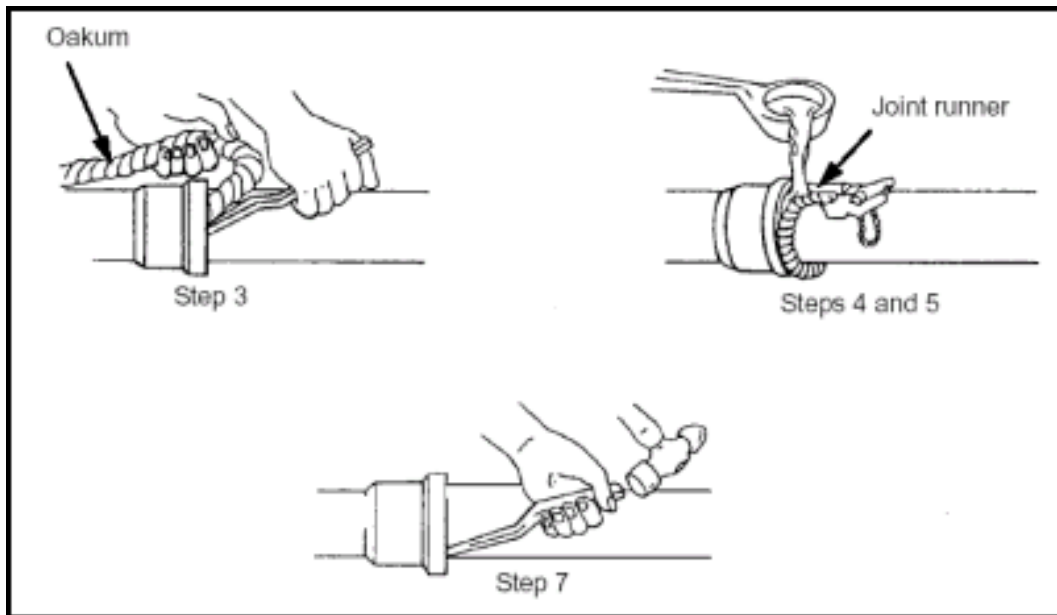

Figure 6-16. Horizontal Lead Joint
6-41. Horizontal Lead Joint. Use Figure 6-16 and the following steps to make a joint.
Step 3. Pack strands of oakum into the hub completely around the pipe or fitting with a packing iron to within 1 inch of the hub's end (Figure 6-16).
Step 4. Clamp the joint runner around the pipe or fitting (Figure 6-16).
Step 7. Caulk the lead (Figure 6-16).